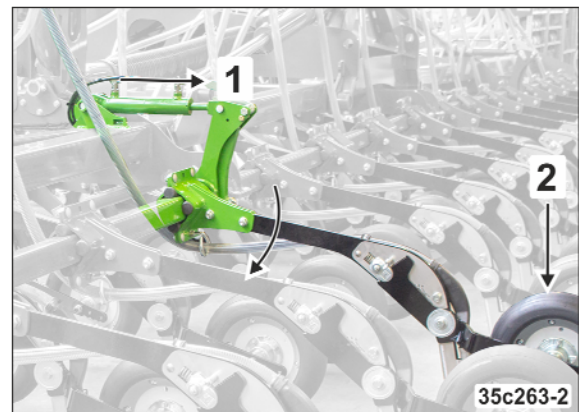

Fig. 178
1. The further the hydraulic cylinder travels out (Fig. 180/2), the further the coulter bar rotates (Fig. 178/1) and the coulter pressure increases (Fig. 178/2).